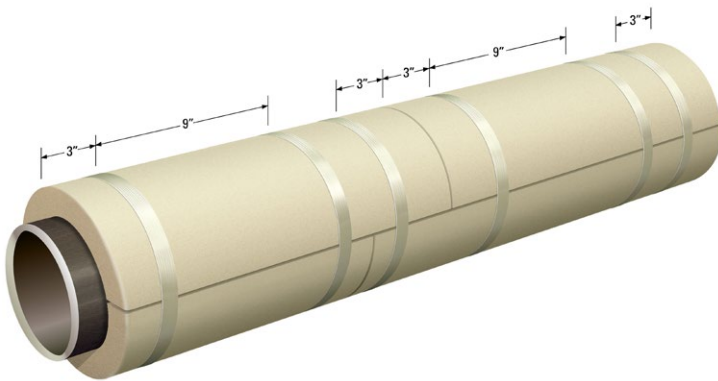

Figure 7 - Taping Pattern
- 4.1.2.4 Apply three separate wraps of filament tape per insulation section to secure pipe insulation to pipe prior to installation of Saranex CX Film. Figure 7 shows an example of this. Each filament tape wrap shall use a minimum 25% circumferential overlap (1¼ wraps minimum).